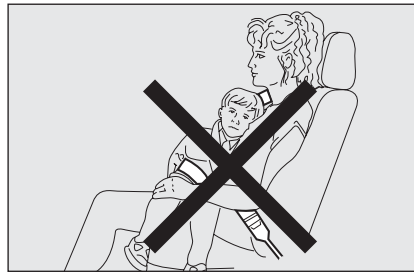

fig. 8
**IMPORTANT** Each belt shall be used by one person only: never travel with a child sitting on the passenger's lap with a single belt to protect them both **fig. 8**. Do not fasten other objects to the body.